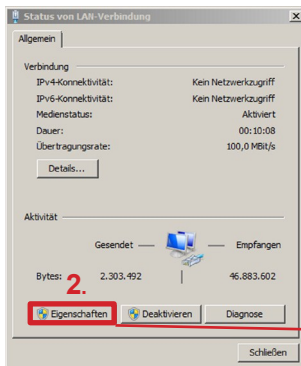

Fig. 9.1-2: Status of n LAN connections
1. Click on **LAN connection** and the LAN connection status opens, Fig. 9.1-2.